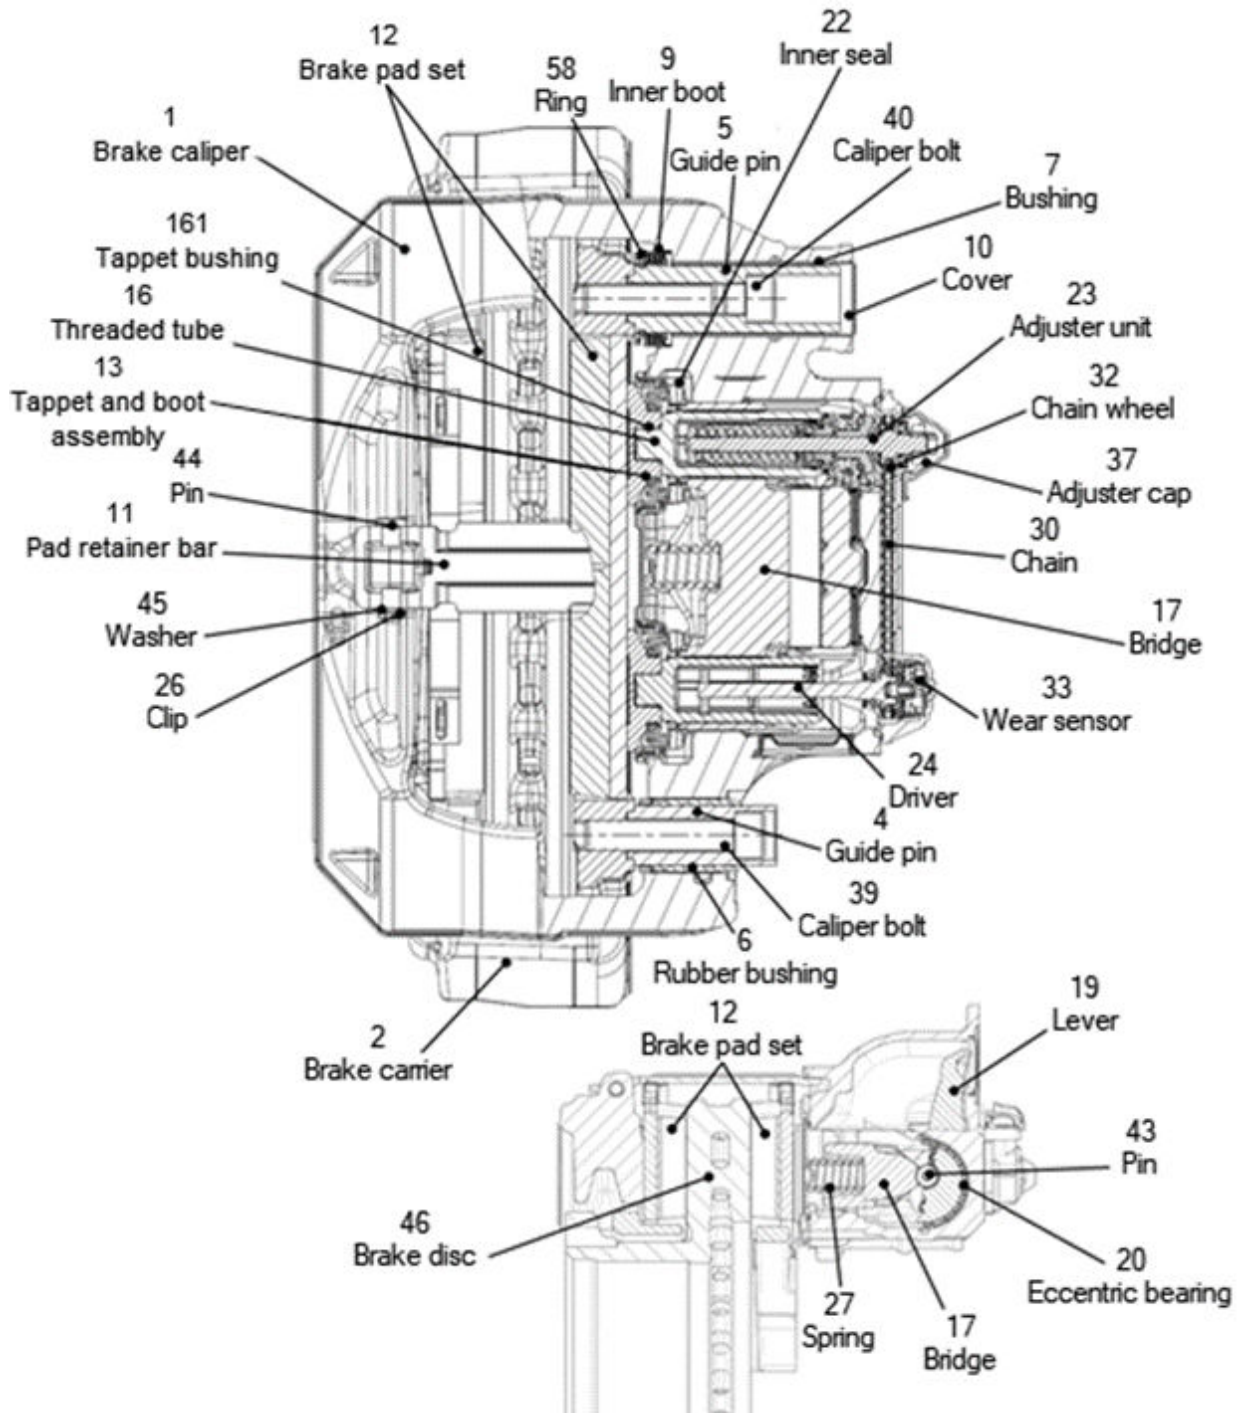

Figure 1: Brake components
- 3.4 Adjusting the brake (Figure 1)7
3.2 Apply the brake (Figure 1)
3.3 Releasing the brake (Figure 1)
3.4 Adjusting the brake (Figure 1)